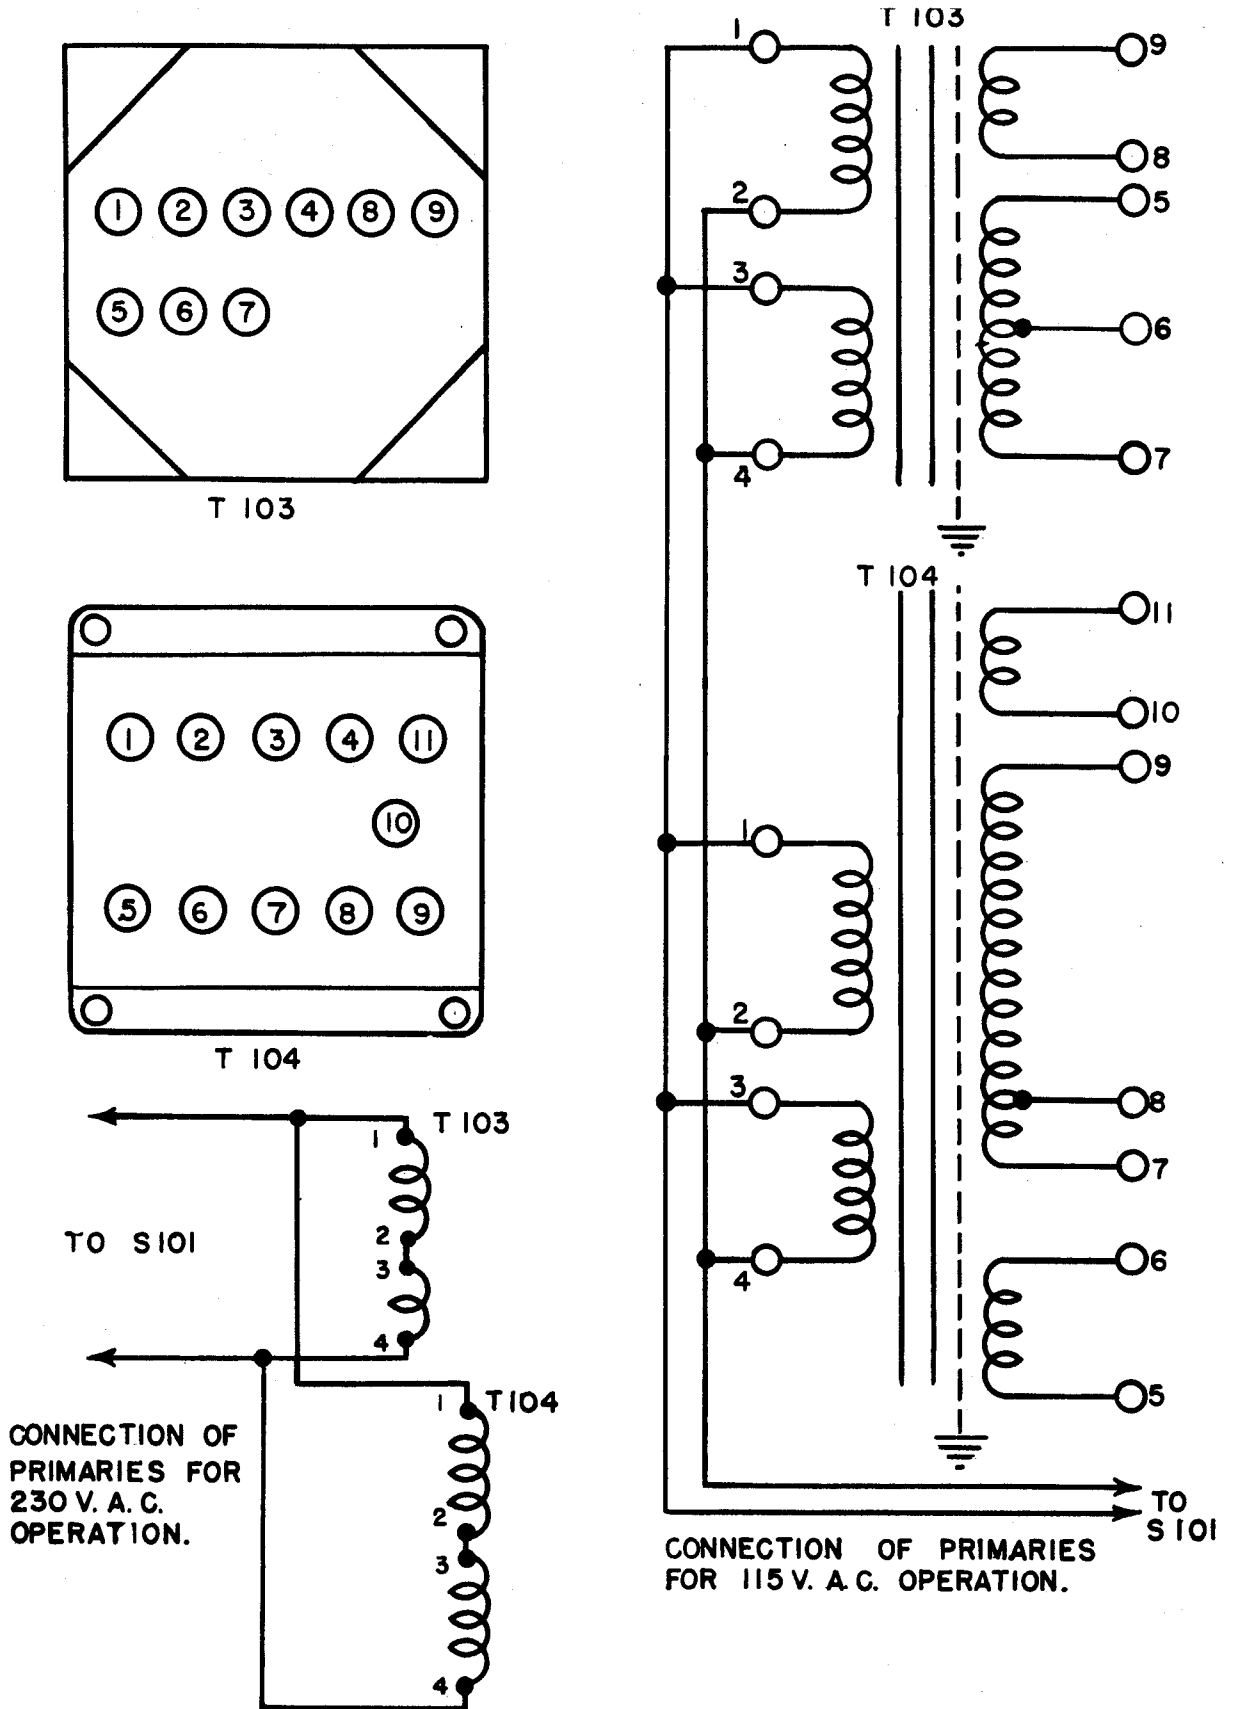

Figure 5-2.- Power Transformer Connections.
- (d) Connect and solder terminal two to terminal three. See Fig. 5-2 for power transformer connections.